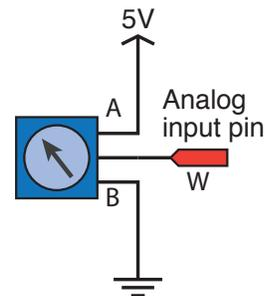
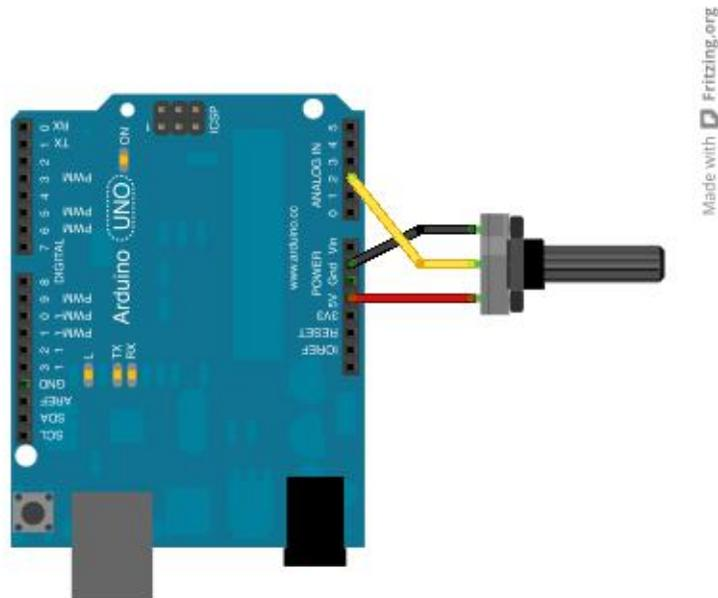

Figure 2: Schematic of a potentiometer connected to an Arduino analog input pin. The A, B, and W pins correspond to the terminals in Figure 1.
Figure 3: Arduino wiring of a potentiometer circuit for analog input on pin 3.
Figure 2 is a schematic of a potentiometer that can supply a variable voltage to an analog input pin of an Arduino. Terminal A is connected to a 5V supply and terminal B is connected to ground. The wiper is connected to an analog input pin. Figure 3 shows a physical representation of the wiring with the wiper of the potentiometer connected to analog input pin 3 of an Arduino.
The `potentiometer_input.ino` program in Listing 1 reads and prints the voltage between the wiper and ground for a potentiometer wired as in Figure 2 Figure 3. The reading will be an integer between 0 and 1023. To convert to voltage, multiply the reading by $5/1023$.
3. The maximum safe voltage for an input signal on any analog input pin is 5V. How does the design of the circuit in Figure 3 guarantee that the 5V limit will not be exceeded?